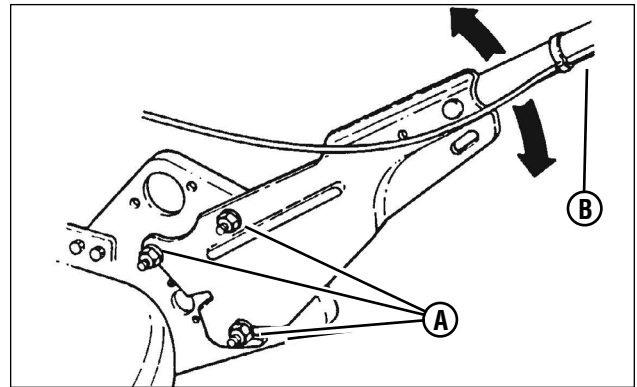

Figure 6: Adjusting the handle height
1. Loosen the lower nuts (A, Figure 6) on each lower handle.